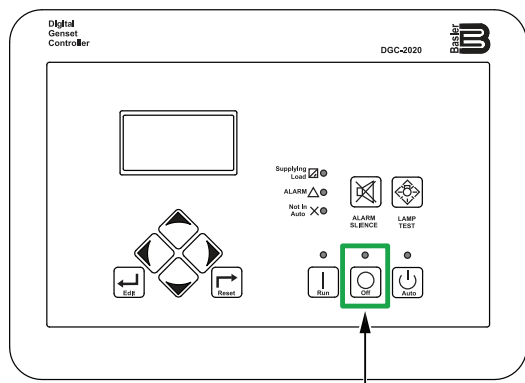

Figure 47. Digital Controller (OFF Button)
3. Press the **OFF button** on the digital controller (Figure 47) to stop the engine. The engine will stop after a 1-minute cool-down process.
When the remote contacts are opened, the engine will stop. To exit Auto mode, press the **OFF button** on the digital controller (Figure 47). The circuit breaker will automatically turn **OFF** and the engine will stop after a 1-minute cool-down process.
2. Press the **OFF button** on the digital controller (Figure 47).